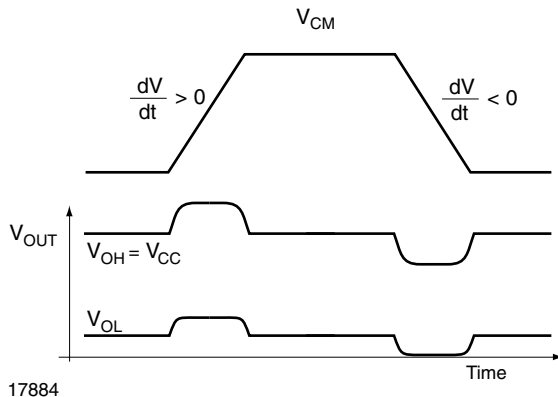

Fig. 8 - Common Mode Pulse and the Distorted Output Signal
In the state where the LED is on, the above considerations are also valid (equations (1) to (4)). However, as figure 8 indicates, the critical point is now the rising edge of the transient. Equation (4) shows that a low r_{CE} (transistor highly saturated) makes this case much more robust to any transients, compared to the LED off state.